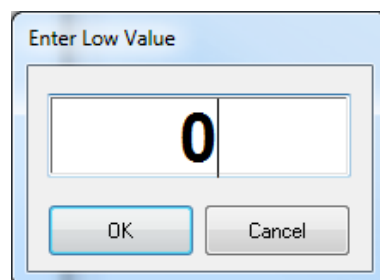

Figure 70: Low value engineering unit
2. Click **Low** in the Engineering Units column. The Enter Low Value box displays Figure 70).